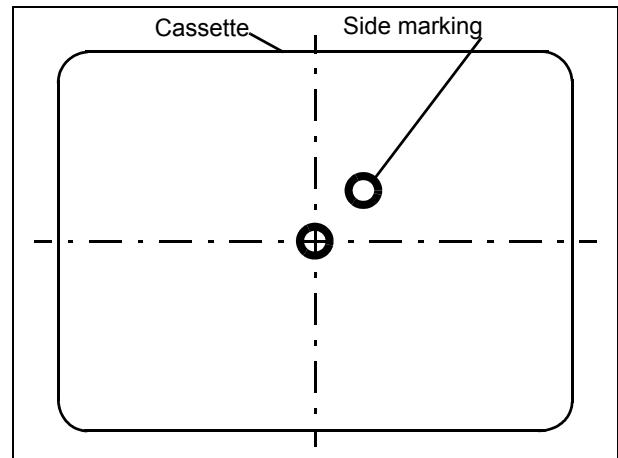

Fig. 1
- Mark the 42 cm x 35 cm cassette as indicated in Fig. 1 with small metal washers and insert the cassette.